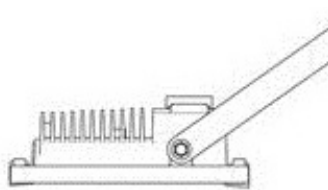

Fig 1
- This product has an angled bracket for ease of installation and does not need to be removed (see Fig 1)